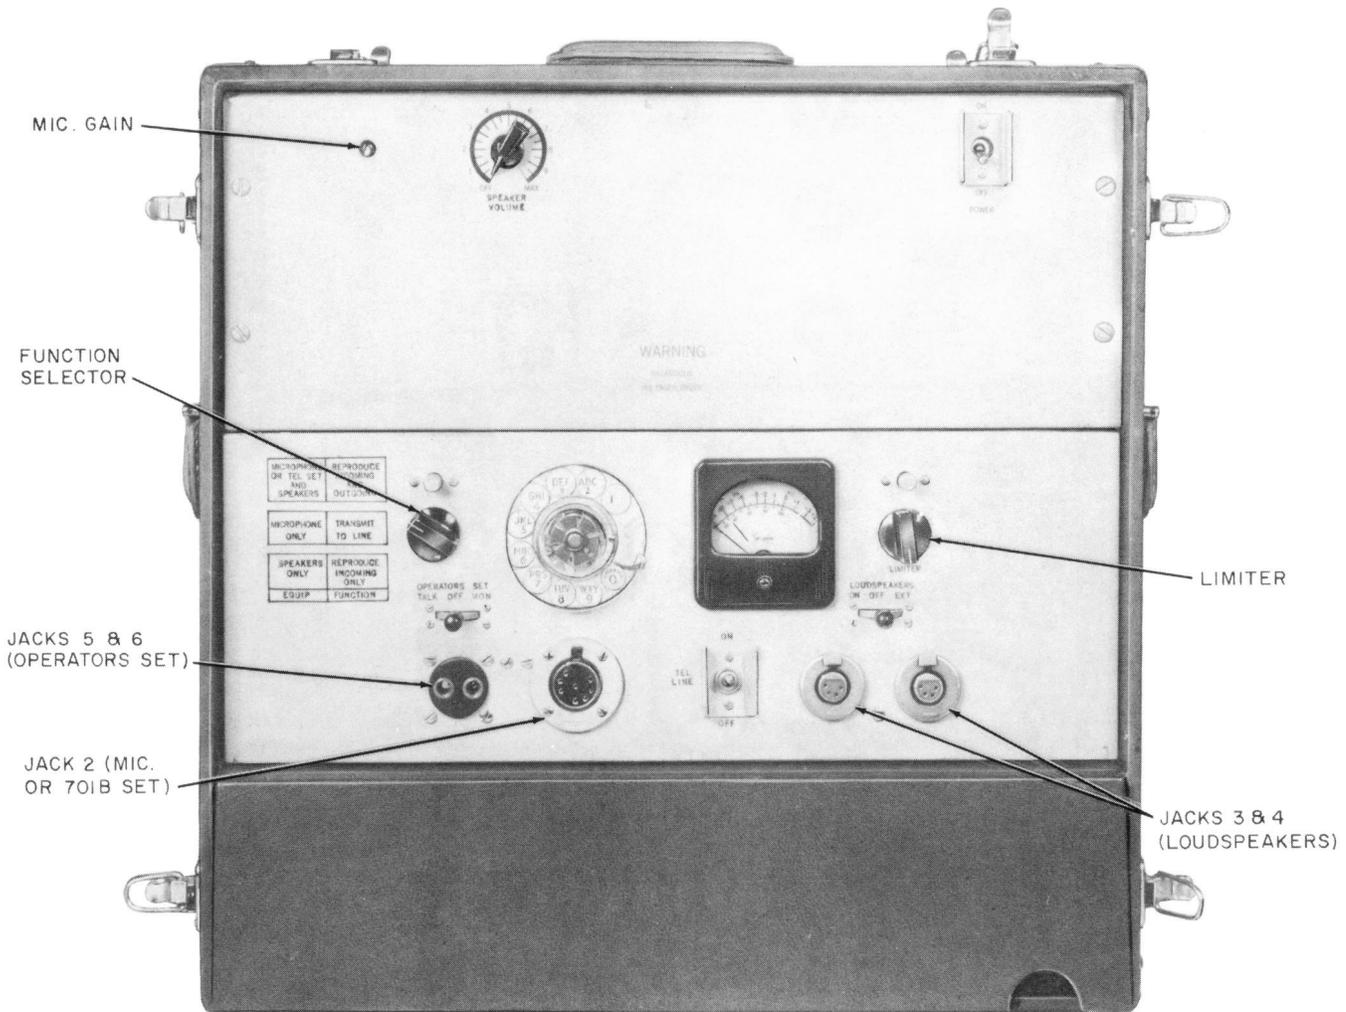

Fig. 3 — KS-19134, List 1 Conference Set (Front View)
- (3) Connect speaker plugs to jacks 3 and 4 (Fig. 3).
- (4) Plug operator set into jacks 5 and 6 (Fig. 3).
- (5) Plug microphone cord into jack 2 (Fig. 3). A "Y" adapter is provided for connecting two microphones.
- (1) Complete a test call following the procedure in 2.02 or 2.04.
- (2) Transfer the call to the loudspeaker system as in 2.03.
- (3) Set function switch to REPRODUCE INCOMING AND OUTGOING.
- (4) Remove plug button to the left of SPEAKER VOLUME CONTROL (Fig. 3) on the front panel of the KS-16617, List 1 amplifier. The exposed screwdriver adjustment controls the speech level from the conference set to the telephone line. Turn this control to its maximum counterclockwise position.
- (5) An announcement of as low a level as would normally be expected should be originated at the conference set microphone. During the announcement, the screwdriver adjustment should be turned clockwise *only as far as necessary* to produce a comfortable listening level at the distant end. With the microphone gain adjusted properly, the incoming and outgoing speech should be of approximately equal volume as heard over the loudspeakers.
- (6) Replace the plug button covering the screwdriver adjustment.
- (7) The microphone gain is preset at the factory and should not, *under normal conditions, require attention. DO NOT* perform this adjustment unless there is sufficient evidence to warrant it.